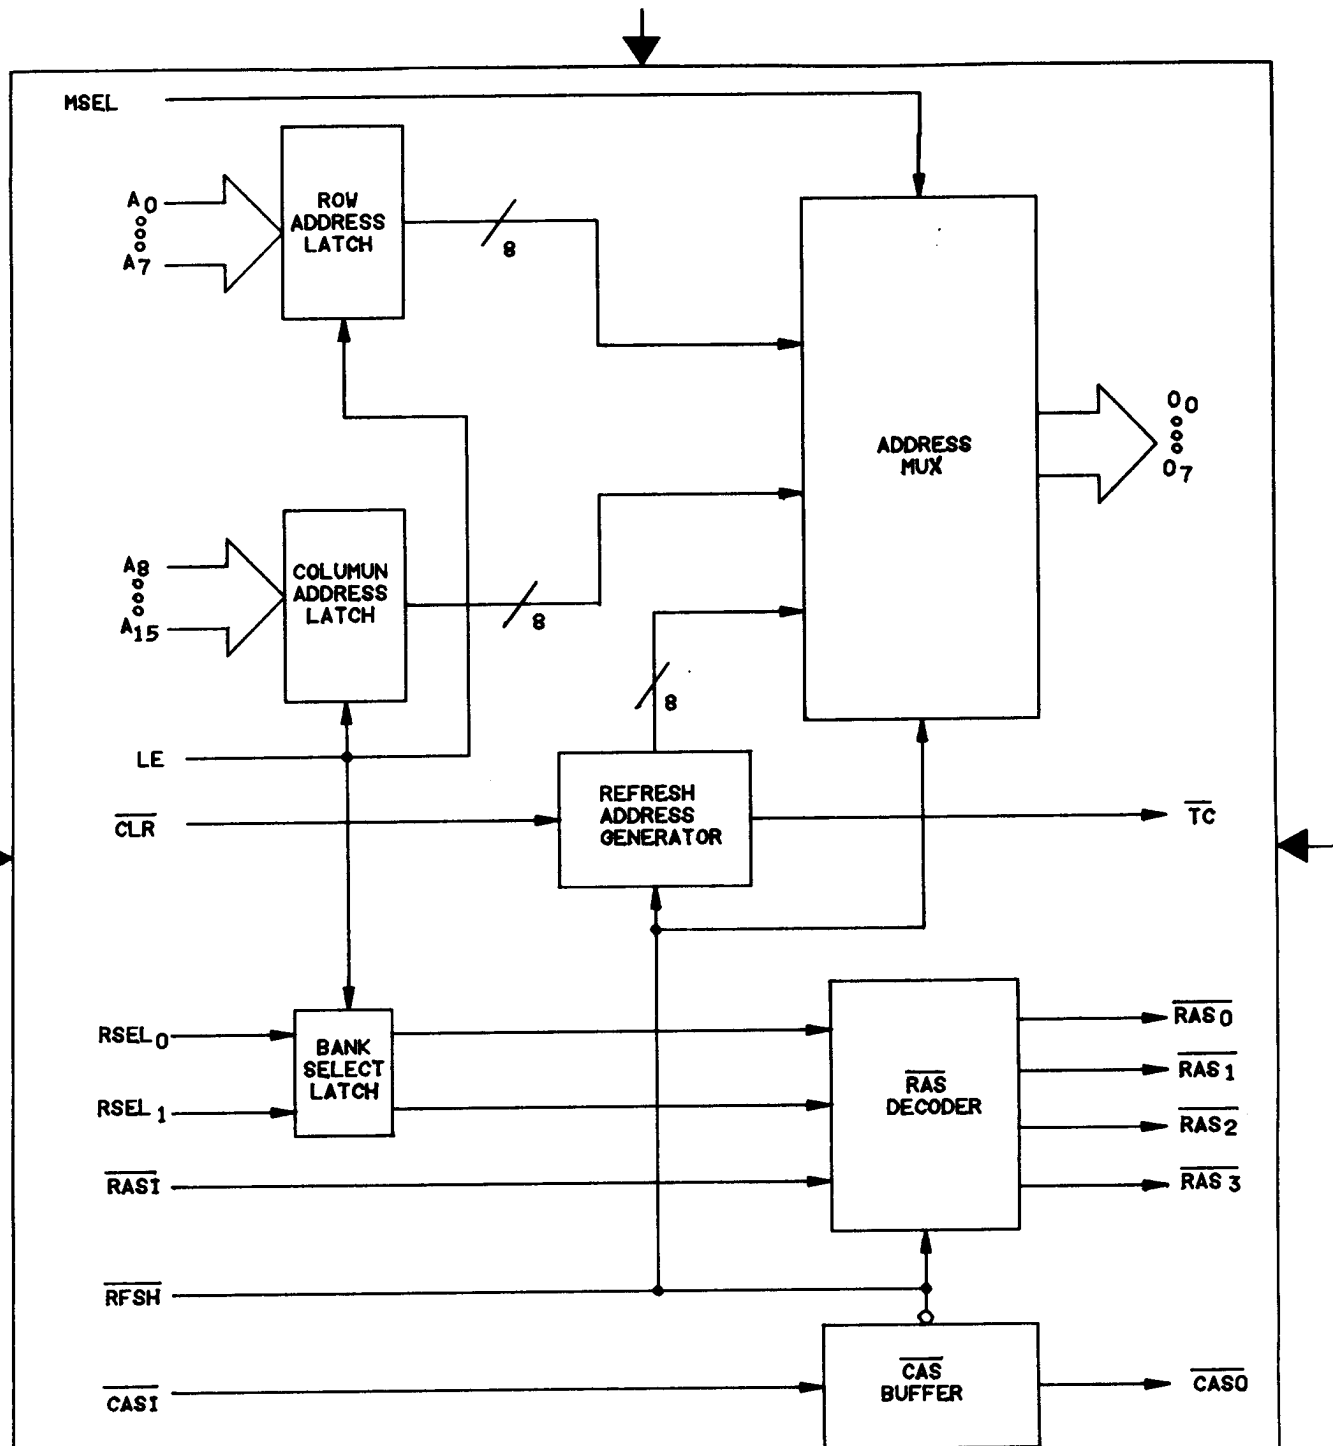

FIGURE 3. Block diagram.
3.2.3 Block diagram. The block diagram shall be as specified on figure 3.